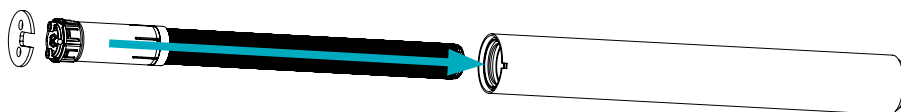

Fig. 13: Example of actuator installation in a cylindrical height-adjustable column
3. Mount the drive into the preassembled height-adjustable column (see Fig. 13: Example of actuator installation in a cylindrical height-adjustable column).